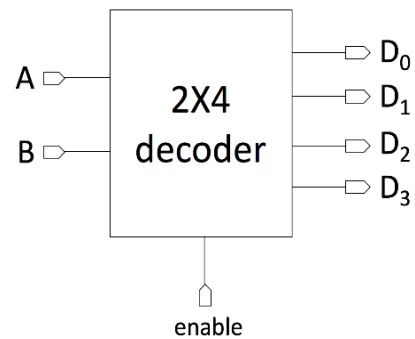

Figure 1: 2 to 4 Decoder with E.
There are many types of decoders which depends on input 'n', 2 to 4 Decoder is the most famous one of decoder which take 2 input and give 4 output and Enable (E) as extra input see figure 1.